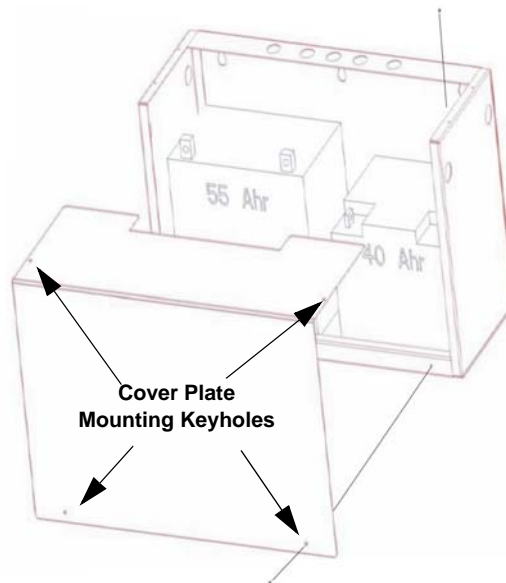

Figure 1.4 Cover Plate Mounting Keyholes and Cover Mounting Screws Alignment
6. Align the cover plate mounting keyhole over the cover mounting screws. See Figure 1.4.
7. Slide the cover into place and tighten the cover mounting screws. See Figure 1.4.